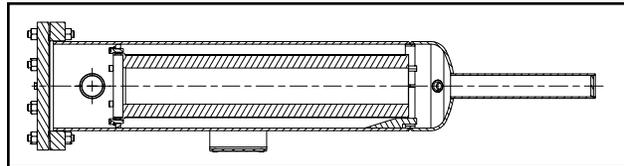

Figure 29. SuperFilter II - Current Design
5. Insert a brass bar or piece of hardwood in the port opening and between rotor teeth to keep shaft from turning. Turn the locknut counterclockwise and remove locknut. See Figure 29 or 30.